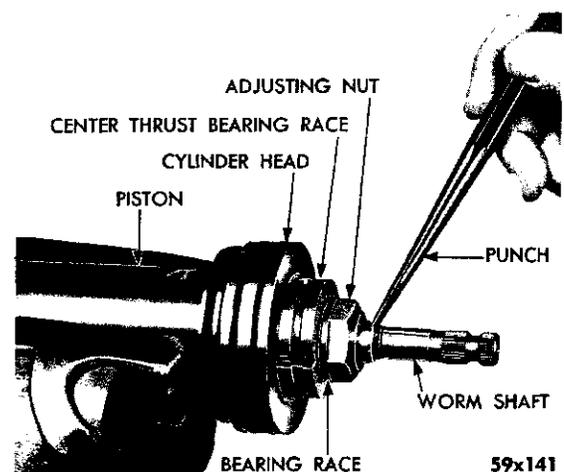

Fig. 45—Staking the Worm Shaft Bearing Adjusting Nut
(6) Stake the upper part of the worm shaft adjusting nut into the knurled area of the shaft as follows:
a. Hold a ¼ inch flat end punch on the center line of the worm shaft and perpendicular to the worm shaft and at a slight angle to the nut flange (Fig. 45).